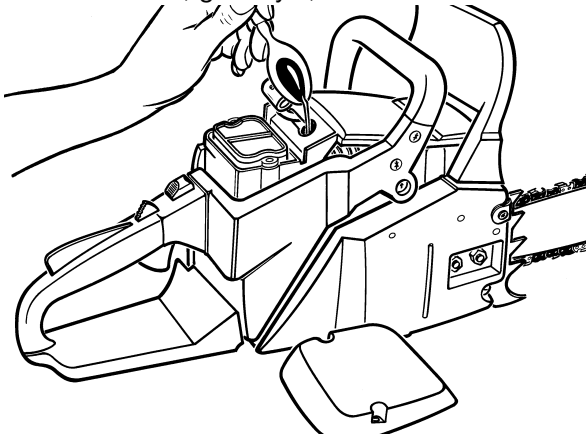

Fig. 36
5. Pour 1 teaspoon of clean 2-cycle oil into the combustion chamber. Pull starter rope slowly several times to coat internal components. Replace spark plug (Fig. 36).